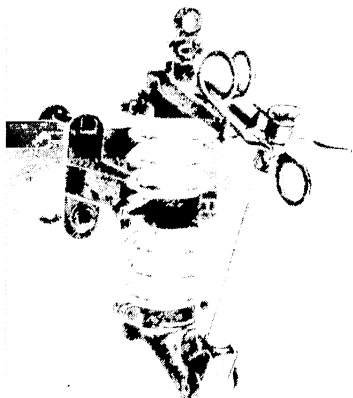

FIG 7-14 Typical automatic cutout mounted on crossarm. (Courtesy Railway and Industrial Engineering Co.)
**Automatic Cutout.** A cutout in the form of a disconnect switch is illustrated in Fig. 7-14. The fuse element is contained in the bakelite tube. When the fuse blows, the cutout drops out at the upper end and thus shows that it requires replacement.